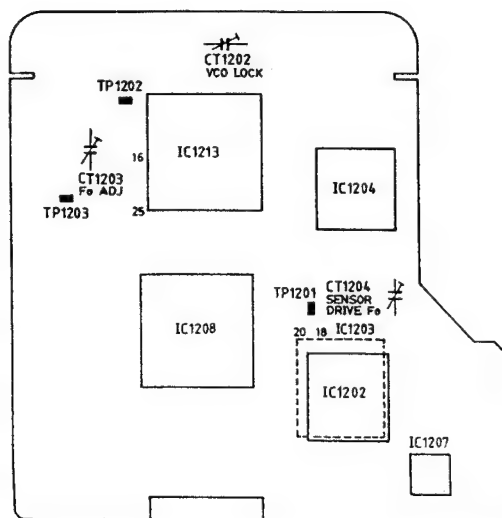

Fig. 4-6 Process (PC) Circuit Board (Side-A)
1) Subcarrier Frequency Confirmation (Fig. 4-6)
(2) VCO Lock Voltage Confirmation (Fig. 4-6)
(3) Sensor Drive Pulse Frequency Confirmation (Fig. 4-6)